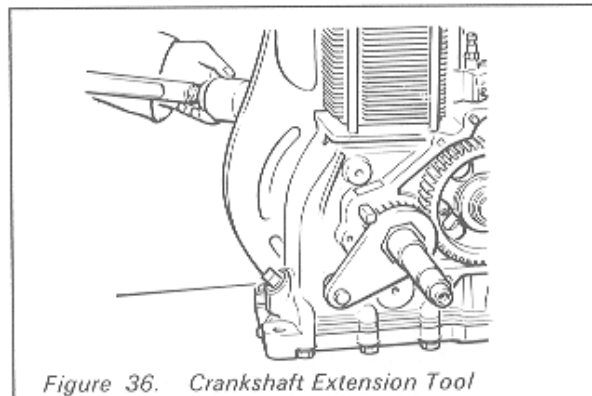

Figure 36. Crankshaft Extension Tool
- Fit the crankshaft extension tool, 317-50023, as shown in Figure 36.